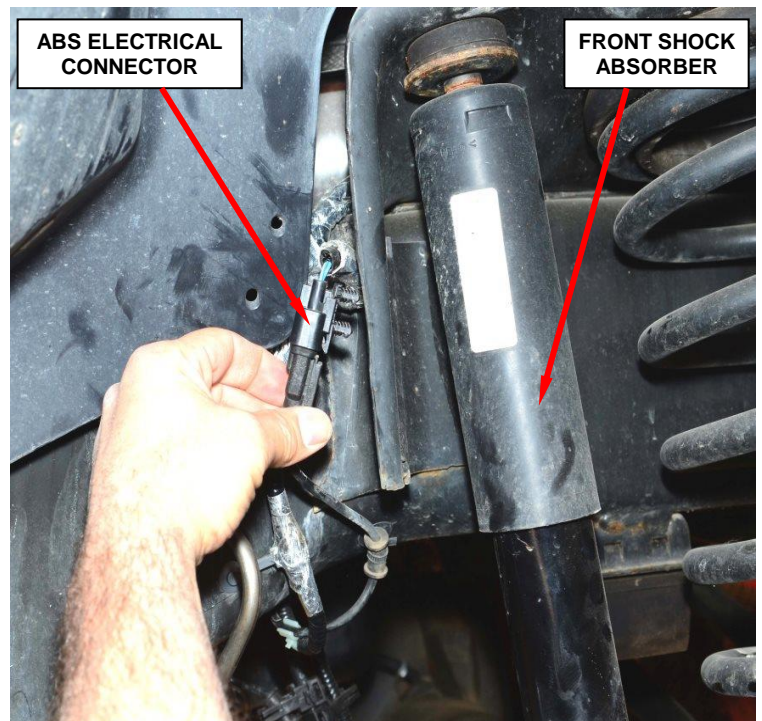

Figure 7 – ABS Wheel Speed Sensor Electrical Connector
8. Disconnect the Anti-Lock Brake System (ABS) wheel speed sensor electrical connector and unclip the ABS wire from brake hose (Figure 7).
10. **For vehicles equipped with four wheel drive**, connect the four wheel drive actuator electrical connector (Figure 7).
16. Route the ABS speed sensor wire along the brake tube and then connect the Anti-Lock Brake System (ABS) wheel speed sensor electrical connector (Figure 7).